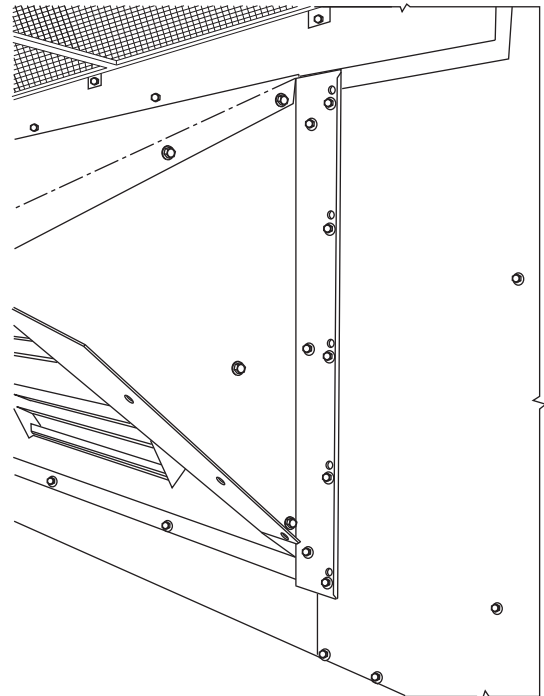

Fig. 12 — Blockoff and Hood Positioning
5. Install the side blockoffs using the screws included (no. 14-10 x 7/8 in.). Be sure to properly position the hood. See Fig. 12.